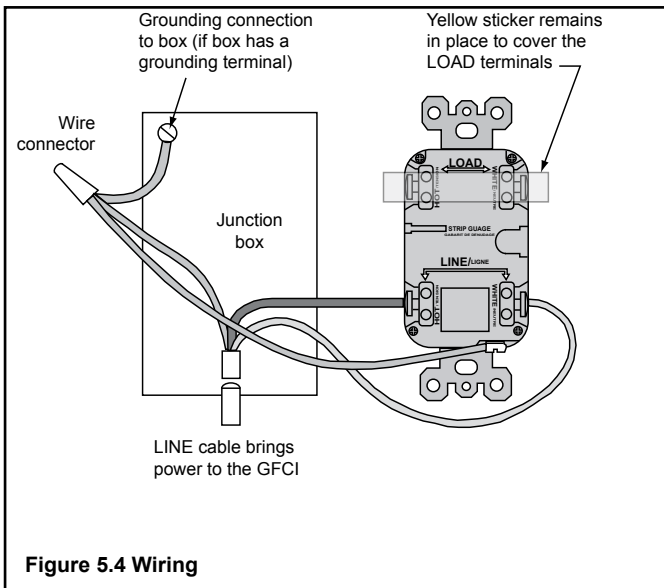

Figure 5.4 Wiring
- Wire & Assemble Junction Box. See Figure 5.4.